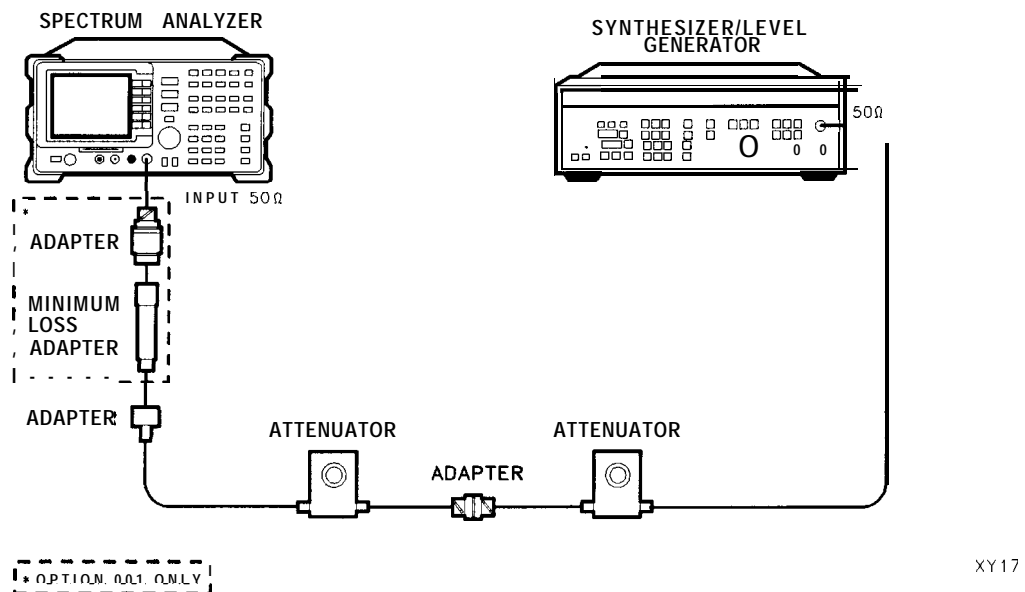

Figure 1-7. Scale Fidelity Test Setup
2. Connect the equipment as shown in Figure 1-7. Set the 10 dB step attenuator to 10 dB attenuation and the 1 dB step attenuator to 0 dB attenuation.